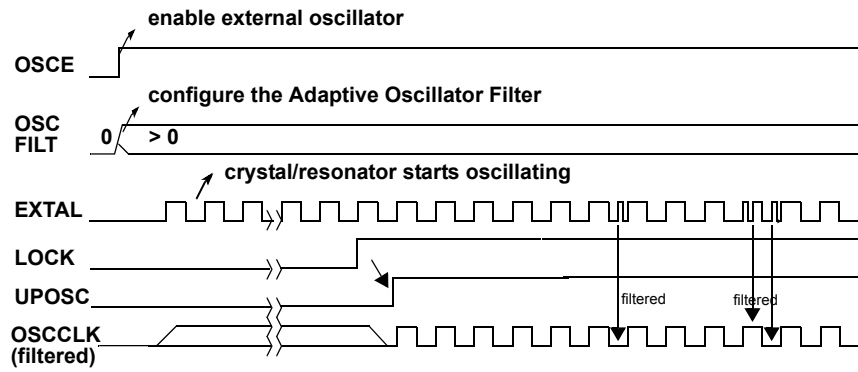

Figure 93. Noise Filtered by the Adaptive Oscillator Filter
1. Filter noise (spikes) from the incoming external oscillator clock. The filter feature is illustrated in Figure 93.